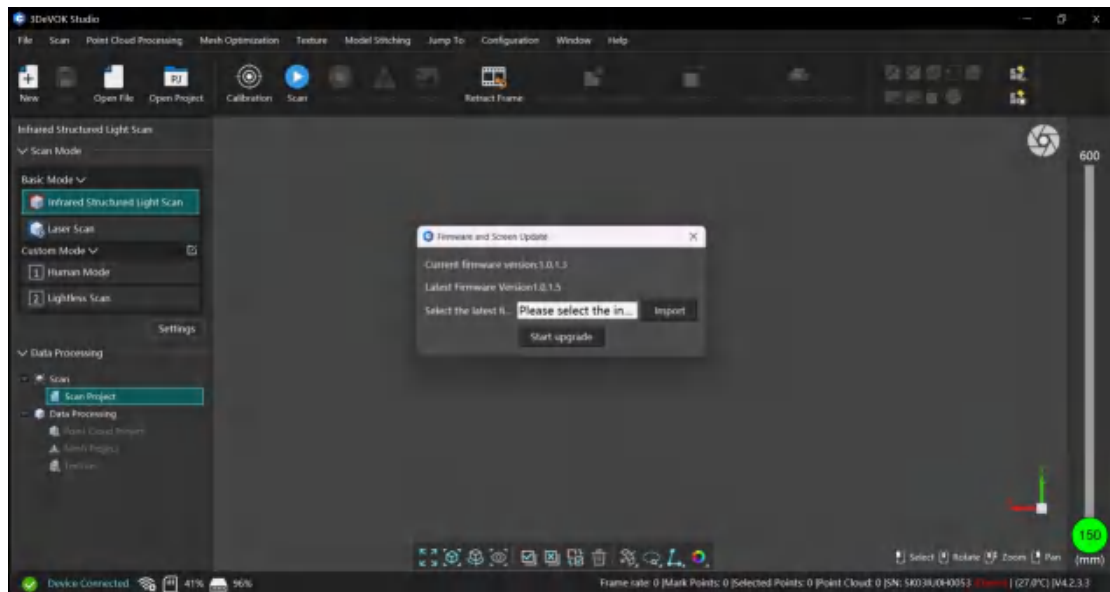

Figure 5-5 Import the Update Zip File
2. Click  for device update, and select Browse to import the zip file of Firmware and Screen Update (which can be downloaded via the Wetransfer link). Click Start Upgrade to initiate the process, which is shown in Figure 5-5.